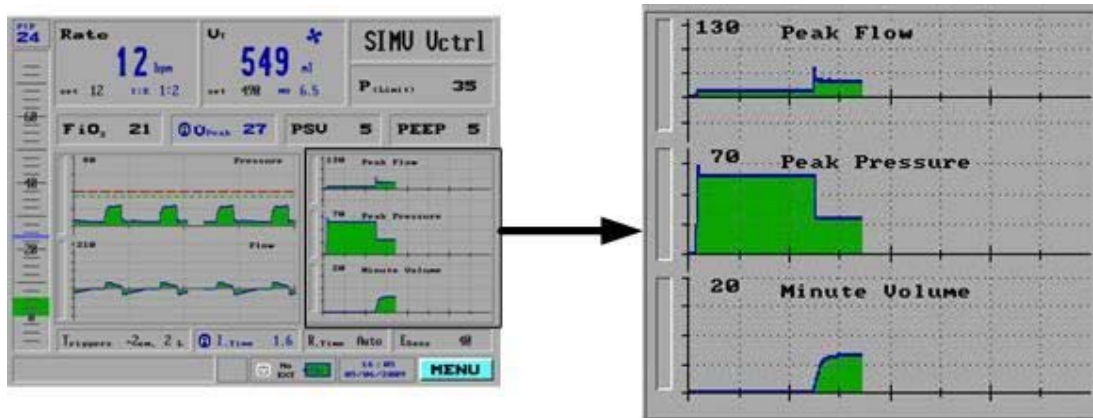
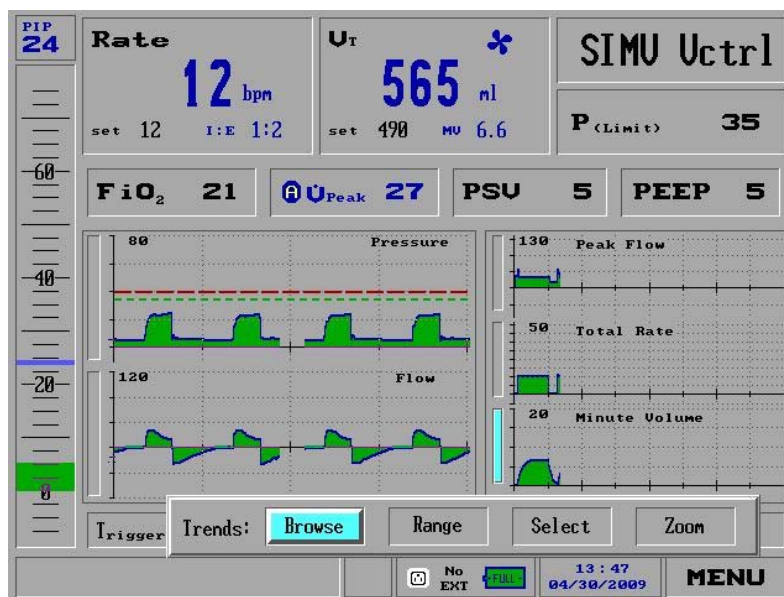

Figure 104: Trends Pop-Up Window During Ventilation
Figure 108: The Trends Choice Bar, with Browse Selected
If the ventilator is in operation, the three displayed Trends appear in a window beside the waveforms (Figure 104):
1. Turn the Control Knob to select the Select bar of the **Trend** graph you want to browse (Figure 104). Press the Control Knob to display the **Trends Choice** option (Figure 108).